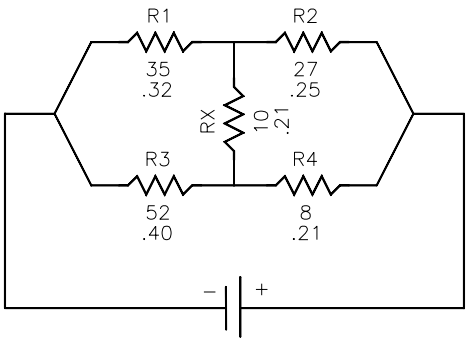

Figure 17-55 Electric circuit diagram with resistors for Exercise 2
3. Repeat the **INSERT** command to insert other blocks, and define their attribute values as given in the table. Save the drawing as *attexr2.dwg* (Figure 17-55).